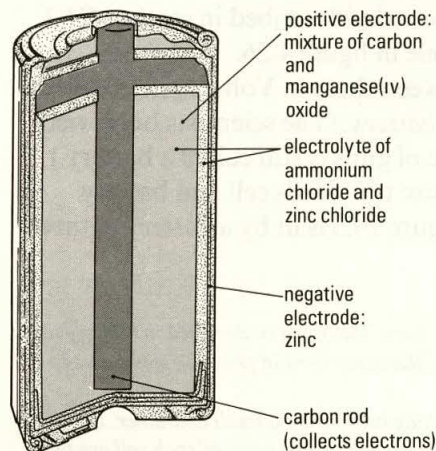

Figure 14.5
Figures 14.5 to 14.7 illustrate some of the variety of cells in use today.
The cells shown in figures 14.5 to 14.7 do not last forever. The chemicals which react to produce the flow of electrons eventually run out, then the battery has to be replaced. Batteries of this sort cannot be recharged and they are known as *primary cells*.
- 7 With the help of figures 14.5 to 14.7 suggest an explanation for the high cost of the energy from cells.
Primary cells such as those pictured in figures 14.5 to 14.7 are made of expensive materials and so they are an expensive source of energy. Once they have been used they cannot be recharged so they are thrown away.